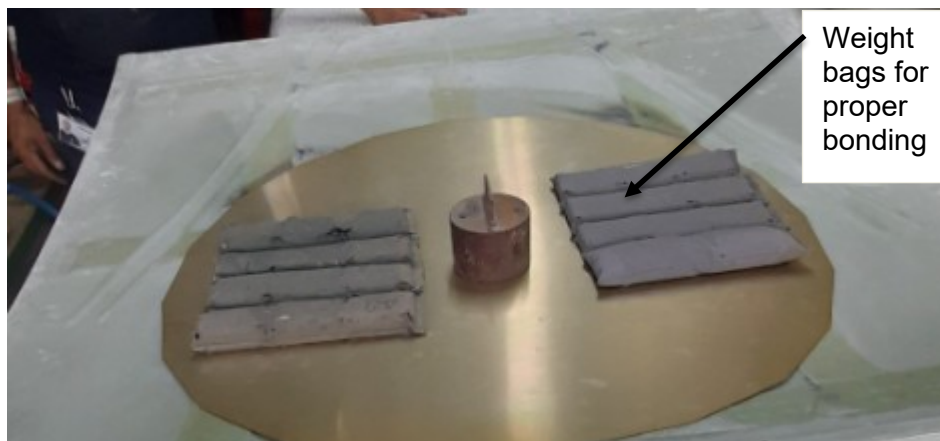

Figure 19: Weight bags to be applied on the plate for proper bonding.
- Step 14: Apply uniform weight on top of the bonded plate to ensure proper bonding using weight bags as shown in Figure 19.